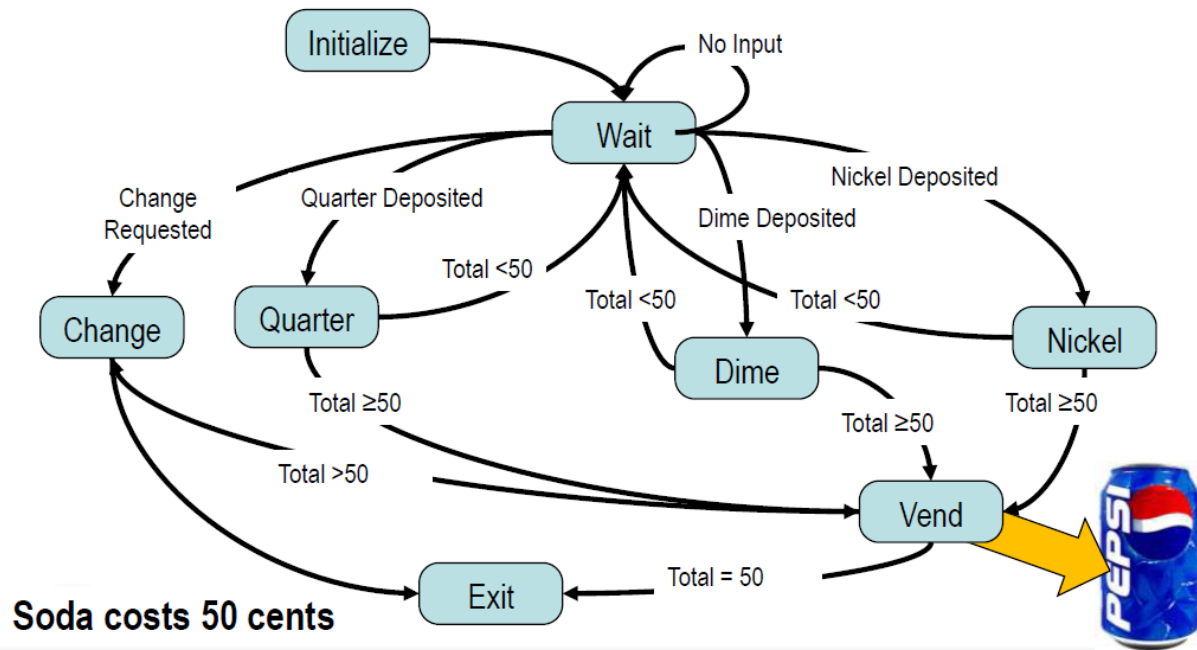

Figure 4: Vending machine state diagram
A possible simplified implementation of a Coke (Pepsi) vending machine is shown in the state diagram in Figure 4. The cost of a Coke is assumed to be 50 cents, and the machine accepts quarter (25 cents), dime (10 cents) and nickel (5 cents). When the machine has received 50 cents or more it goes to the state called “Vend”, and it returns a Coke (Pepsi). If the machine has received exactly 50 cents it then goes from the “Vend” state to the “Exit” state. If the machine has received more than 50 cents it goes to the “Change” state before the “Exit” state, in order to give the buyer back the change above 50 cents. The user can at any time before he has given the machine 50 cents push the “Change” button (which set the *ChangeRequest* signal high) in order to cancel the order and request his money back.
2. Create the ASM chart from the state diagram in Figure 4 (to make the VHDL implementation easier). The ASM chart should have the same number of states (8) and the same state names as given in Figure 4.